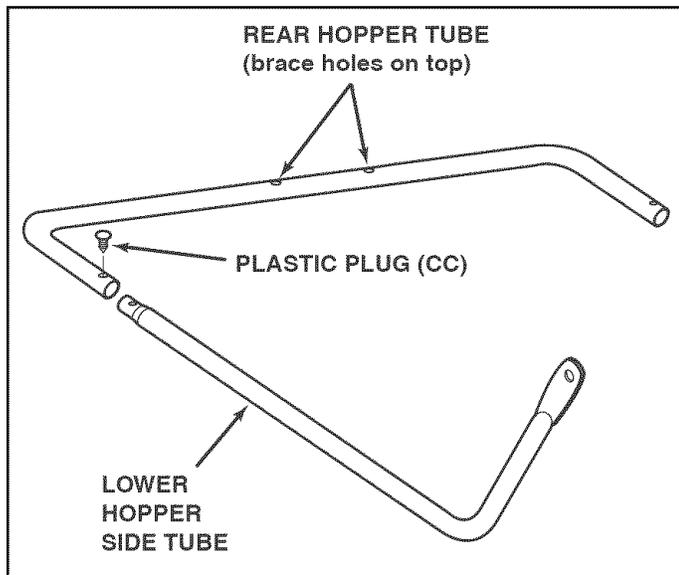

FIGURE 15
STEP 11: (SEE FIGURE 15 AND 16)
- Turn the second rear hopper tube so that the brace holes in the middle of the tube **face up**. Assemble the ends of the rear hopper tube onto the ends of the lower hopper side tubes. Fasten together using plastic plugs (CC).